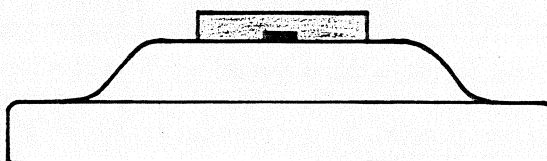

Fig. 3.3. Pivot centre button
- Prise off the centre knobs from each pivot, using a screwdriver (Fig. 3.3) in one of the small slots at the sides of the knobs